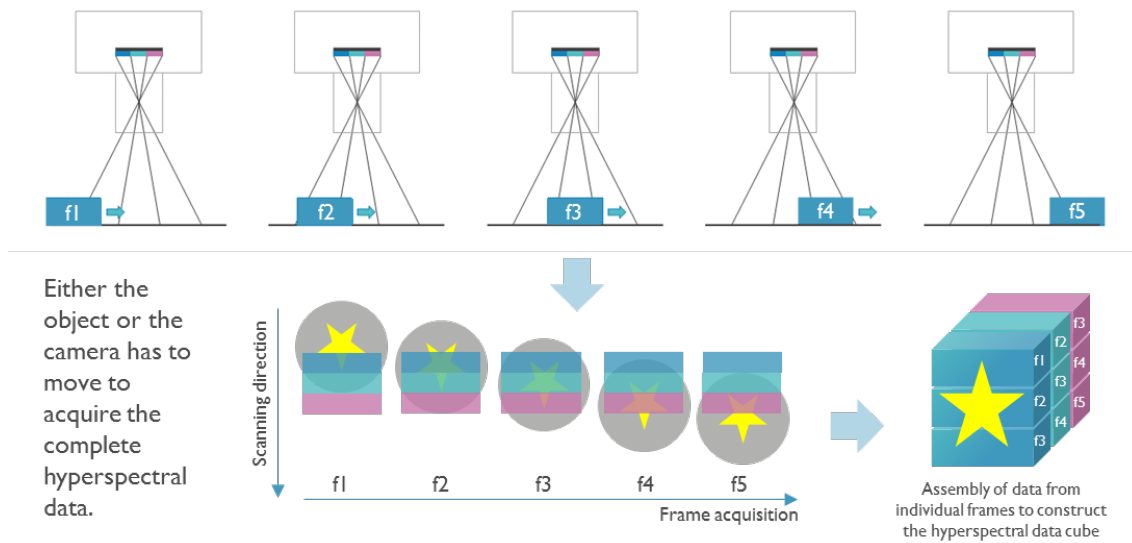

Figure 1 Working principle for imec hyperspectral linescan sensors
-  *The camera's lens projects an entire area image on the imec hyperspectral linescan sensor. Different filters are deposited on the sensor, stretching over the full width of the sensor and varying along the sensor's height. The light is thus filtered depending on the row position of the image on the sensor, yielding images as shown in Figure 1. This greatly simplifies the system's optical system and on top makes focusing and setting exposure times easier.*
The difference between imec's hyperspectral linescan and snapscan is illustrated in Figure 1 and Figure 2. These illustrations assume a hypothetical linescan sensor with three spectral bands.